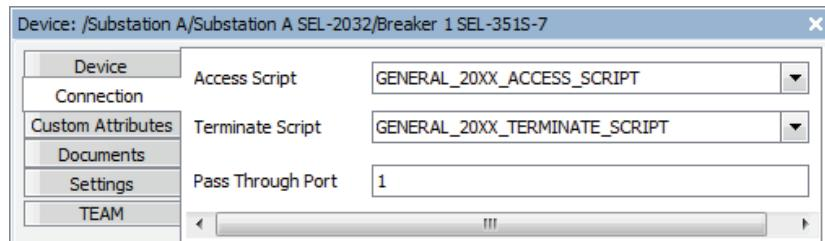

Figure 52 Relay Connection Window
- Step 7. Select the **Connection** tab in the **SEL-351S-7** window shown in *Figure 52* and match the options to the following listing.